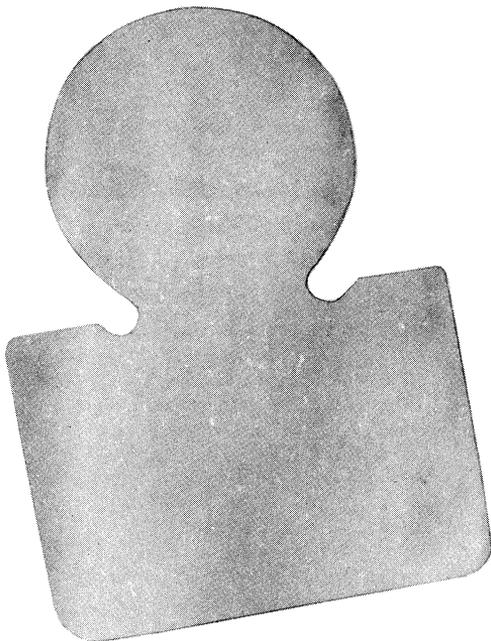

Fig. 58—KS-22551 (Stainless Steel Nonmagnetic) Gauge
5.43 A KS-22551 gauge (Fig. 58) is available for adjusting the No. 4-40 setscrew as outlined in paragraph 5.41(a).